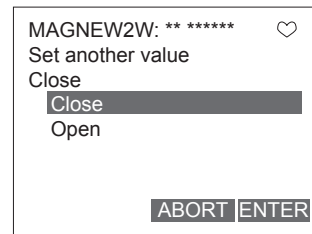

Fig. 7-74.
2. Once the display as shown Fig. 7-73. appears, make sure that the loop is removed from the automatic control. Then press "OK" to execute the output check with the calibrator. Then Fig. 7-74. is displayed.